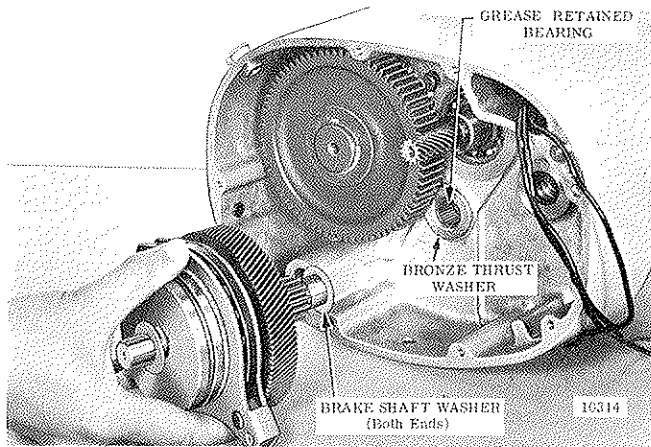

Figure 7-9. Removing Load Brake Assembly (1/8, 1/4 & 1/2 Ton Capacity Hoists)
(1) On 1/8 thru 1/2 ton capacity hoists, pull assembled load brake and the brake shaft washers from inside hoist frame (fig. 7-9). Caution - grease retained bearing has 36 rollers (all capacities) and may be reinstalled unless rollers are broken or missing or cup is damaged.